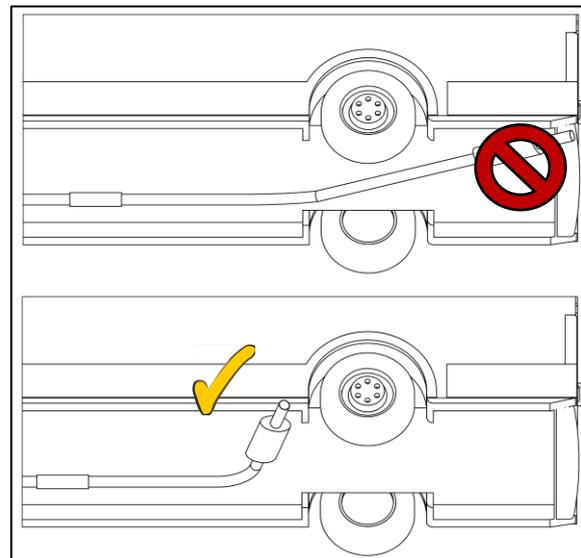

Fig. 7
- Be sure to maintain a sufficient distance from heat-sensitive parts. The minimum distance from plastics and cables is 300 mm (see Fig. 7).